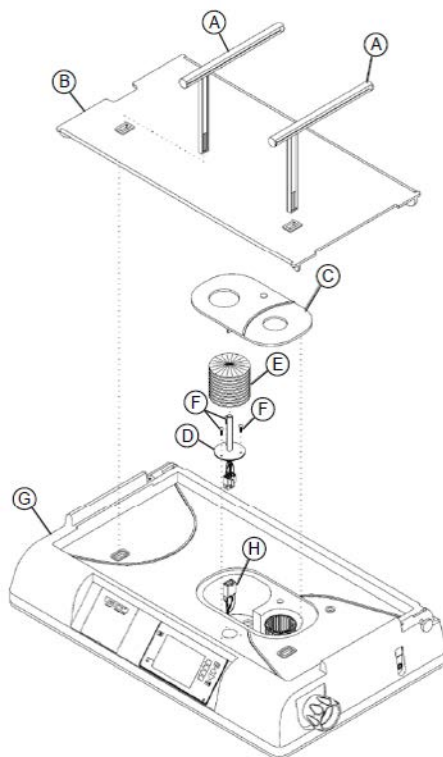

Fig. 58 Heater assembly
**16** Allow 45 minutes for the heater assembly (Fig. 58/D) to cool.
**17** Remove the heater radiator (Fig. 58/E) from the heater assembly (Fig. 58/D).